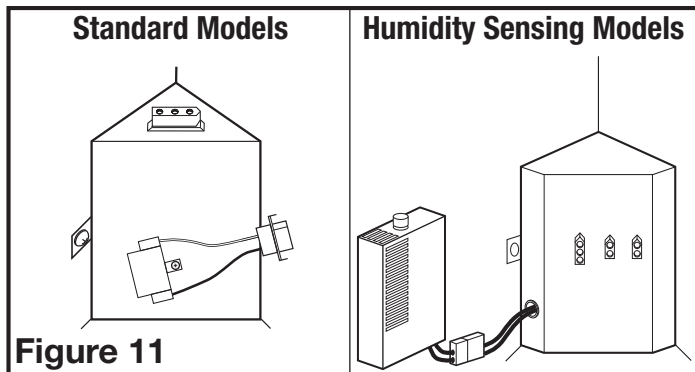

Figure 11
- 3a. **STANDARD MODELS:** Plug the fan's 2 pin and 3 pin quick connect motor cords into the corresponding receptacle located on the wire compartment cover. These cords will only fit one way into the receptacles (**Figure 11**).
3b. **HUMIDITY SENSING MODELS:** Plug the fan's 2 pin and 3 pin quick connect motor cords into the corresponding receptacle located on the wire compartment cover. Connect the two pin connector from the humidistat compartment to the two pin connector from the side of the wire compartment cover. These cords will only fit one way into the receptacles (**Figure 11**).